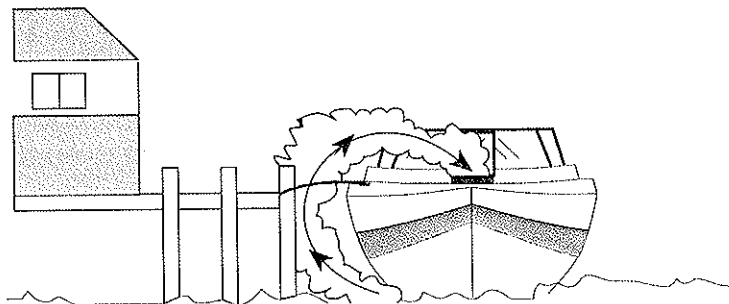

Figure 2.1 Running engine or generator in confined areas
**DANGER:** Blocked hull exhaust outlets near a pier, dock, sea wall bulkhead or any other means can cause excessive accumulation of poisonous carbon monoxide gas within the cabin areas. Make sure hull exhaust outlets are not blocked. See Figure 2.1.